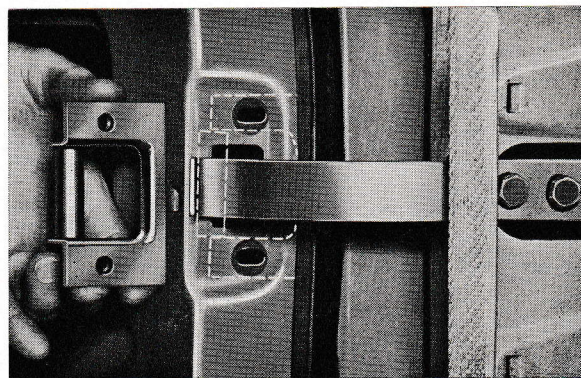

Fig. 6. Door check.
1. Remove the door check, see Fig. 6. The attaching bolts for this are accessible after the side insulation material on the body has been removed. The door check can also be removed from the door by unscrewing the guide roller and hooking off. In order to get at the guide roller, the door upholstery must be removed, see under "Removing the door handle and upholstery".